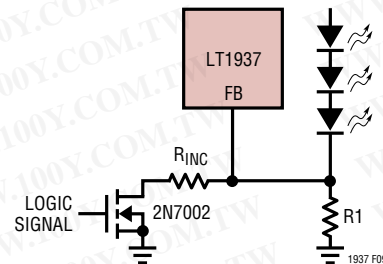

Figure 9. Dimming Control Using a Logic Signal
For applications that need to adjust the LED current in discrete steps, a logic signal can be used as shown in Figure 9. R1 sets the minimum LED current (when the NMOS is off). R_{INC} sets how much the LED current increases when the NMOS is turned on. The selection of R1 and R_{INC} follows formula (1) and Table 4.